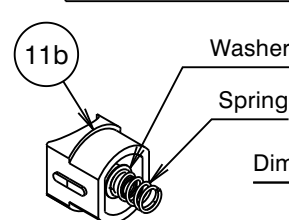

Fig.4
- 9) From packing kit, unscrew handle (11c) from slider bracket (11), remove half bracket (11b). Fit the other half bracket (11a) onto grab rail (12). Ensuring washer and spring are located on spigot of (11b) as shown in Fig.4, align guide ribs on (11b) with guide slots on (11a) then slide (11b) into (11a), then screw handle (11c) into (11a) until slider bracket (11) holds onto rail tightly.
- 10) Check that rubber washer (6) is installed into the shorter conical fitting (7a) on shower hose (7) then screw onto wall elbow (4) and tighten. Check that rubber washer (10) is in position in the longer conical fitting (7b) of shower hose (7) then screw onto handset (8) and tighten. Fit handshower (8) into slider bracket (11). The inclination of the handset can also be adjusted by twisting the handset holder clockwise or anti-clockwise.